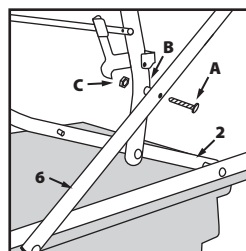

Fig. 11
- Manoeuvre component **3 & 6** until the bolt holes line up. Fasten together using fixings **A, B & C** from **BAG 1**. (Fig 11)